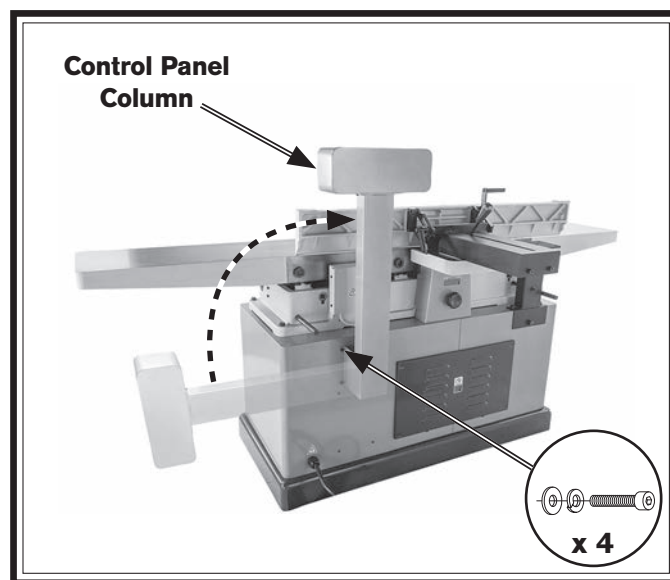

Figure 13. Rotating control panel column.
5. Remove (4) cap screws, flat washers, and lock washers securing control panel column, rotate column vertically, then re-install fasteners (see **Figure 13**).